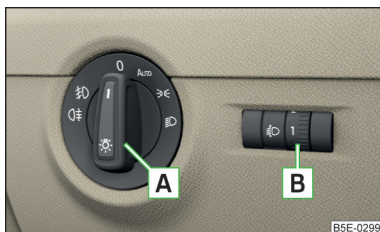

Fig. 48
The arrangement of the controls right-hand drive models may differ from the layout shown in » Fig. 48 on page 70. The symbols which mark the positions of the controls are identical.
Light switch positions - turning the switch **A** » Fig. 48
Turning the knob **B** » Fig. 48
- ✓ The light switch is in the position 0 or **AUTO** » Fig. 48 on page 70.